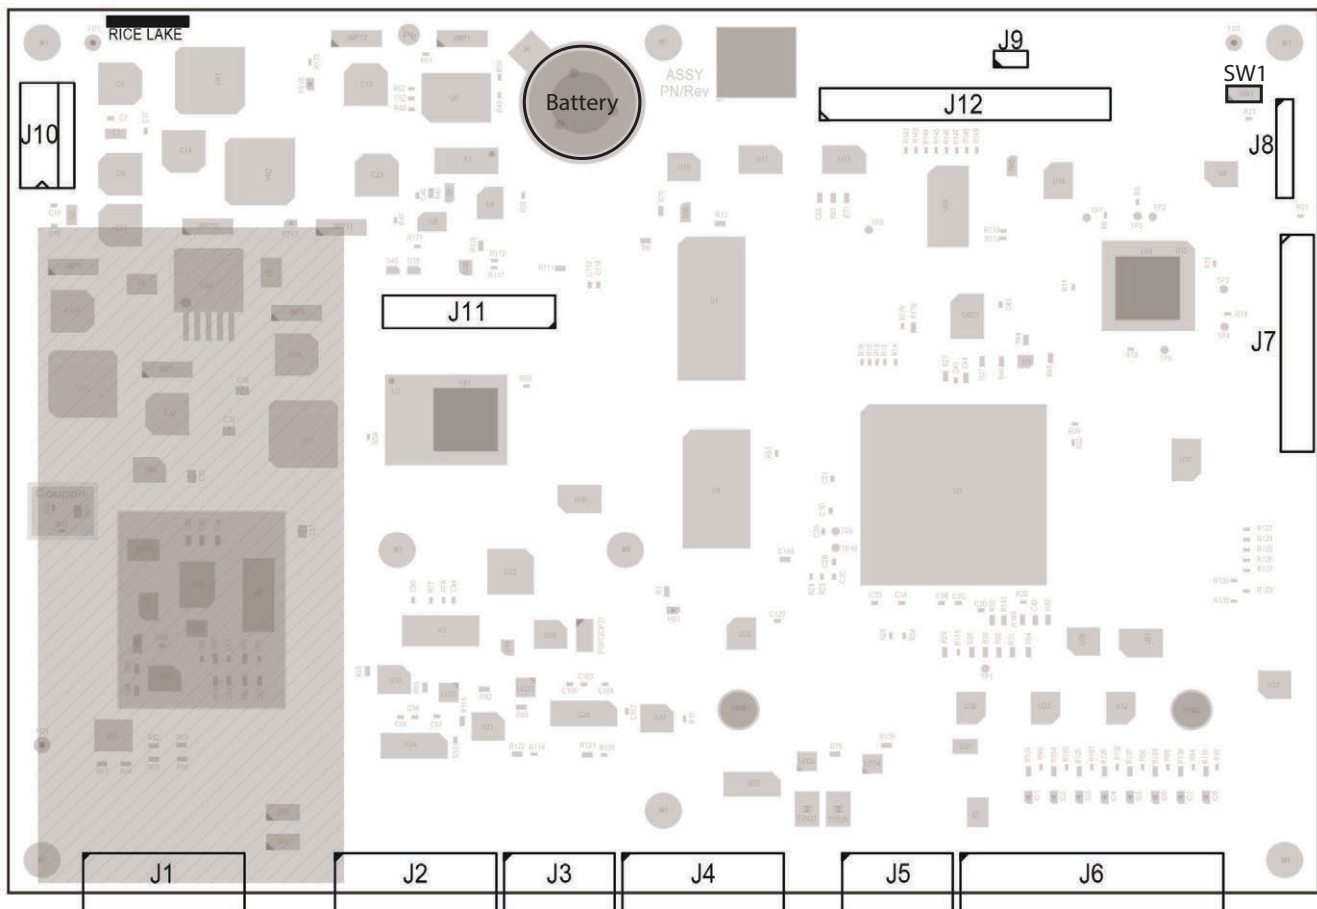
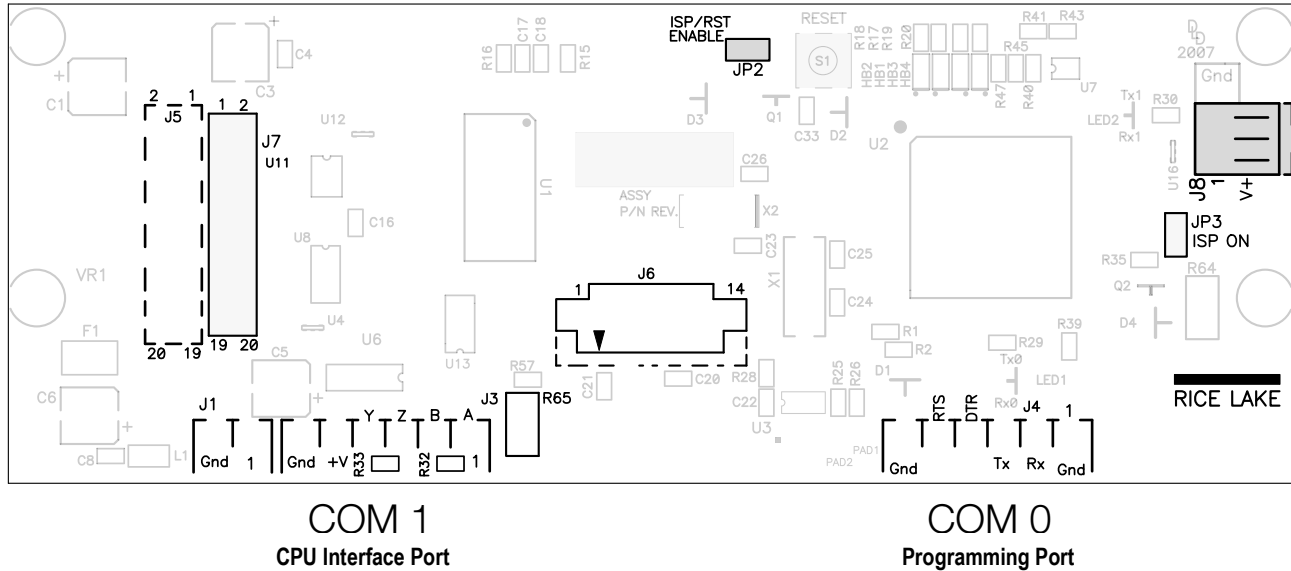

Figure 3-2. 720i CPU Board
Figure 3-3. 720i Display Board
NOTE: Installation of option cards in connector J11 requires removal of the PORT2/OPTI port selection jumper (Figure 3-2 on page 18). Install the jumper to enable RS-232 communications through connector J2; remove the jumper to enable a USB or Ethernet option card installed in connector J11.
Table 3-6 shows the connections between connector J4 on the 720i CPU board and connector J3 (Com 1) on the detached display module (DDM) board. See board diagrams in Figure 3-2 on page 18 and Figure 3-3 on page 19.
2. Carefully align the option card connector with connector J12 or J11 on the CPU board (Figure 3-2).
4. Use the screws provided in the option kit to secure the other end of the option card to the threaded standoffs on the CPU board (Figure 3-2).
Table 3-7 lists the slot numbers, CPU board connectors and configuration assignments made for both onboard and expansion card functions in the 720i. See Figure 3-2 on page 18 for connector locations.